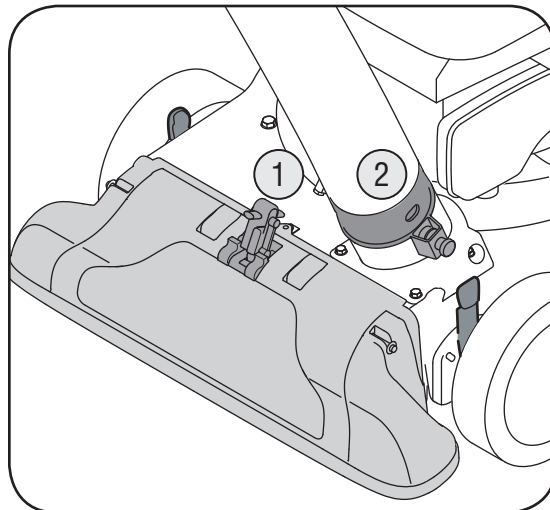

Figure 12
1. Place nozzle/hose vac lever in the top position on the nozzle to vacuum through nozzle. See Figure 12.